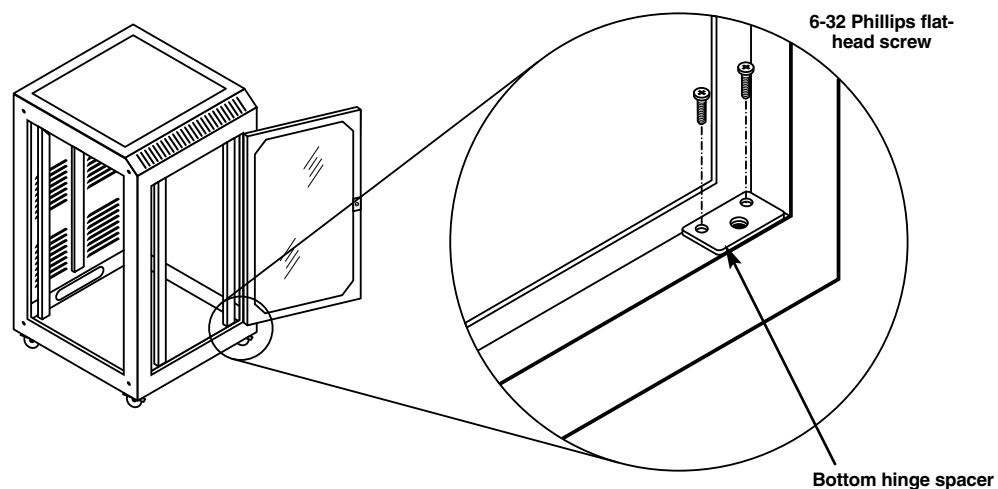

Figure 7. The bottom hinge spacer.
4. Relocate the bottom hinge spacer (Figure 7) on the front and rear door frame to the opposite side of the cabinet by removing two Phillips 6-32 flat-head screws, aligning the spacer over holes on the opposite side of the frame (countersinks facing up) and attaching with screws.